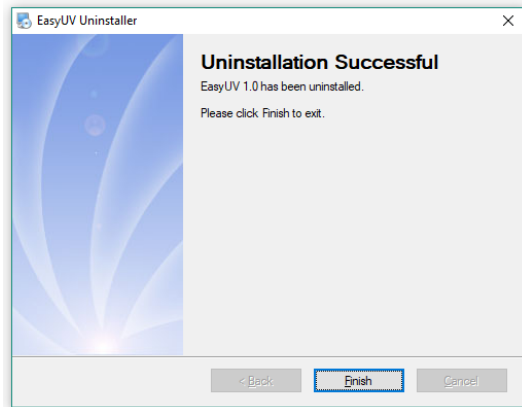

Fig. 2.4-2 Finish
- Wait to complete the procedure (Fig.2.4-2), click **Finish**.